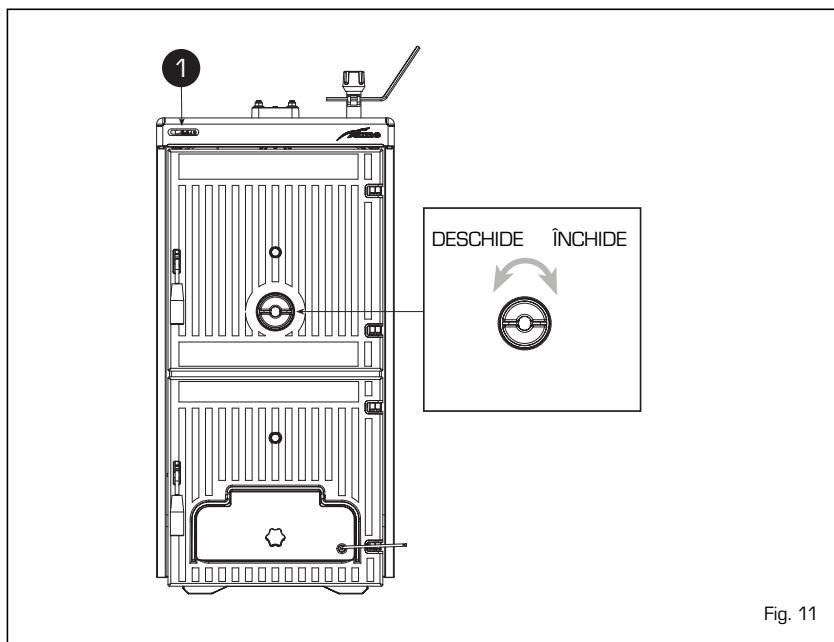

Fig. 11
5.2 TERMOMETRUL CAZANULUI (fig. 11)
5.3 REGLAREA CANTITĂȚII DE AER (fig. 11)